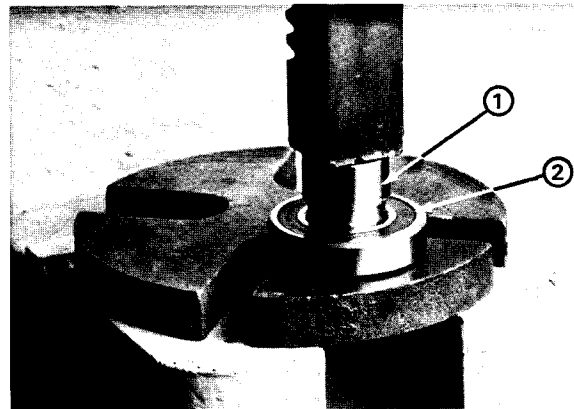

Figure 30
D. Replace the bearing collar if it is damaged. Make sure both the inside and outside race of the new bearing is on a flat surface and press the collar into the new bearing (Fig. 30).